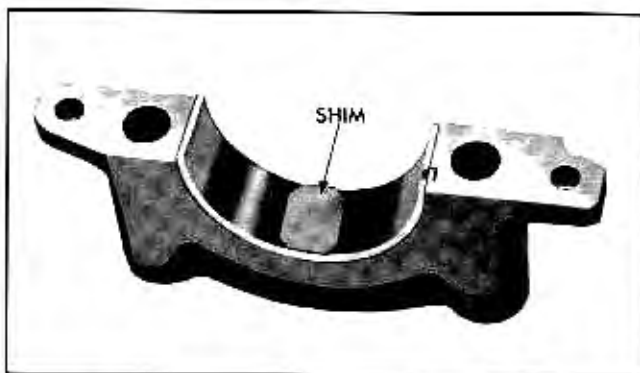

Fig. 6-74 .002" Shim Positioned in Cap for Checking Bearing Clearance
a. Place .002" brass shim $\frac{1}{2}$ " wide by 1" long in main bearing cap with new standard bearing and install cap, pulling up bolts to specified tightness given in step 6 (page 6-45). Refer to (Fig. 6-74) for position of shim in cap.
a. Place .0015" brass shim $\frac{1}{2}$ " wide by $\frac{7}{8}$ " long in bearing cap with new standard insert (Fig. 6-74) and install cap. Tighten nuts to 45 lb. ft. torque.